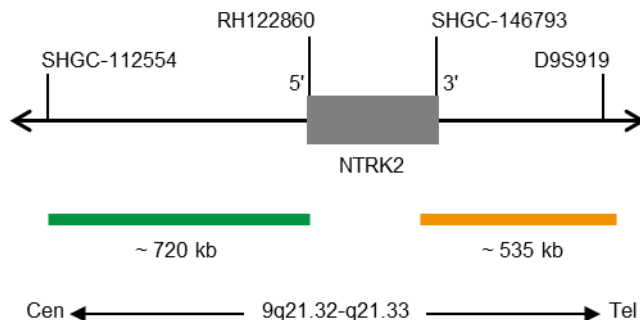

Fig. 1: SPEC NTRK2 probe map (not to scale)
- ZyGreen (excitation 503 nm/emission 528 nm) labeled polynucleotides (~10 ng/μl), which target sequences mapping in 9q21.32-q21.33* (chr9:86,569,621-87,287,312) proximal to the NTRK2 breakpoint region (see Fig. 1).
- ZyOrange (excitation 547 nm/emission 572 nm) labeled polynucleotides (~4.5 ng/μl), which target sequences mapping in 9q21.33* (chr9:87,589,037-88,124,082) distal to the NTRK2 breakpoint region (see Fig. 1).